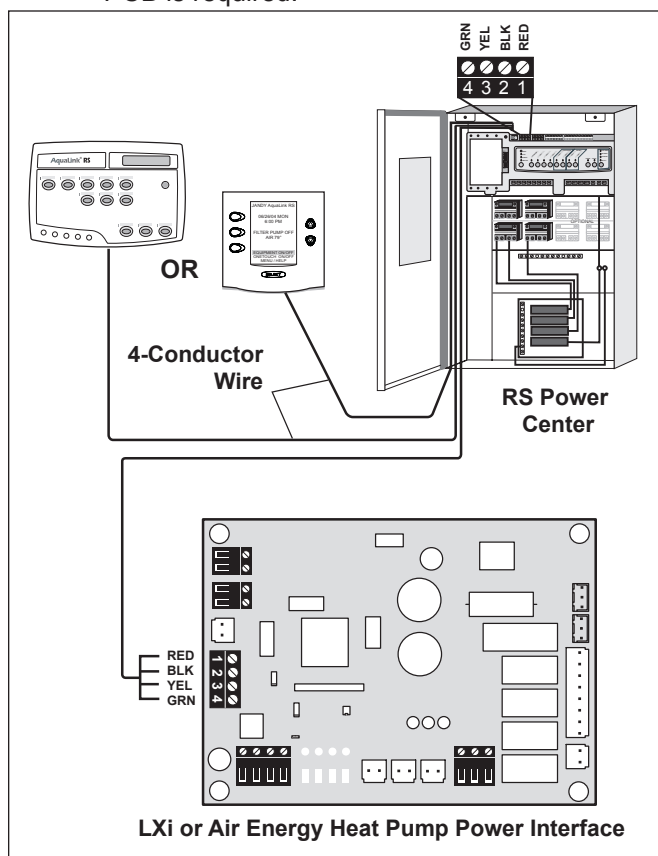

Figure 18. Jandy LXi™ Heater and Air Energy Heat Pump Connection to Power Center
2. Run a 4-conductor cable from the LXi heater or the Air Energy heat pump power interface red, 4-pin connector to the RS power center red, 4-pin connector (see Figure 18).